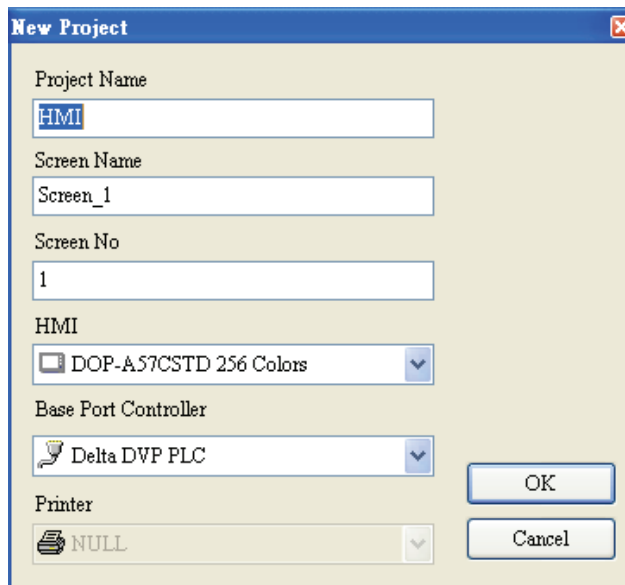

Fig. 2.2.4 Creating a New project
2. After pressing  or click **File > New**, it can create a new project and you will get a dialog box as shown in the following. (Fig. 2.2.4)